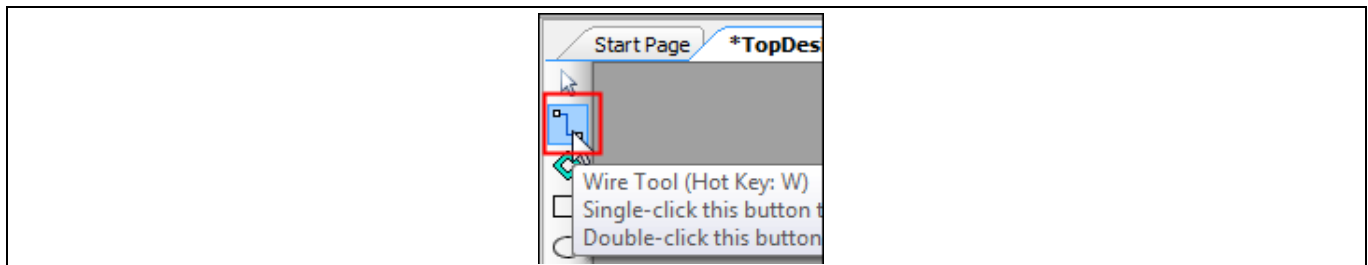

Figure 44 Selecting the wire tool
10. In the schematic window, select the wire tool as shown in **Figure 44**, or press **W**.